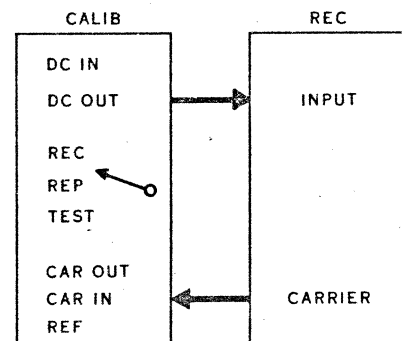

Figure 3. Record Board Calibration Scheme
1. FM RECORD BOARD CALIBRATION - (refer to figure 3)